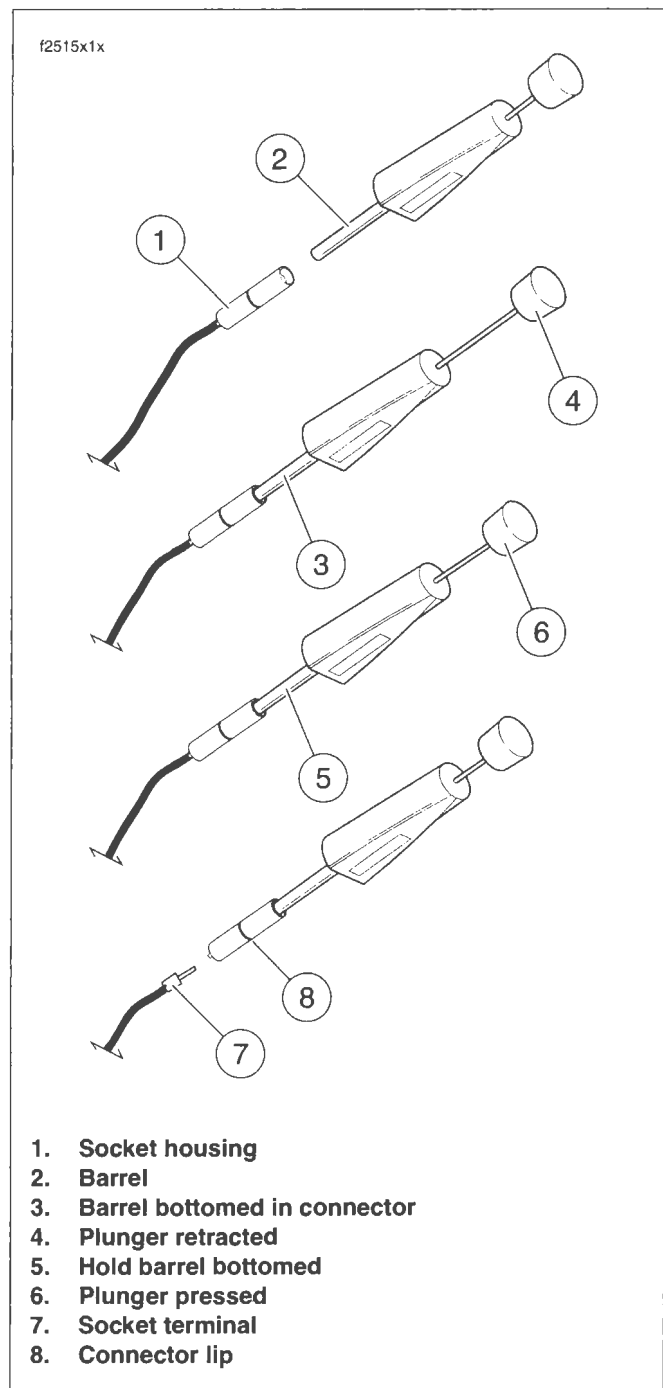

Figure B-1. Socket Terminal Tool (HD-39621-27)
1. See Figure B-1. Grasp the lead on the wire end of the socket housing (1) and push the terminal forward toward the mating end of the connector until it stops. This will disengage the locking tang from the groove in the connector.
2. Fit the barrel (2) of the **SOCKET TERMINAL TOOL (Part No. HD-39621-27)** over the socket.
3. While rotating the tool slightly, push until it bottoms (3) in the socket housing.
4. Allow the plunger (4) to retract from the handle.
5. Holding the socket housing while keeping the tool firmly bottomed (5), depress the plunger (6). The terminal (7) pops out the wire end of the connector.